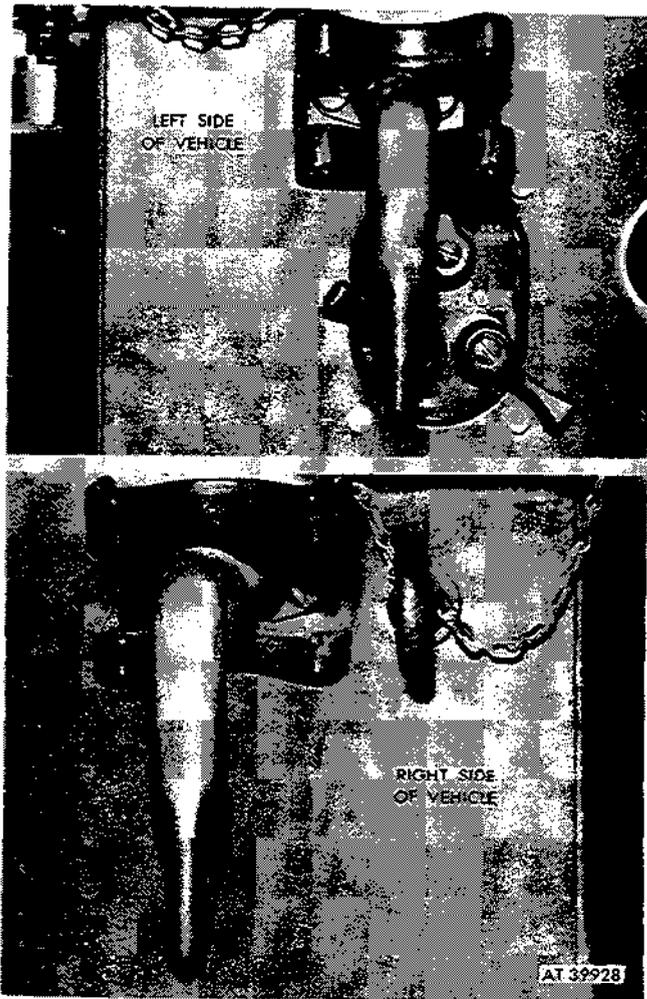
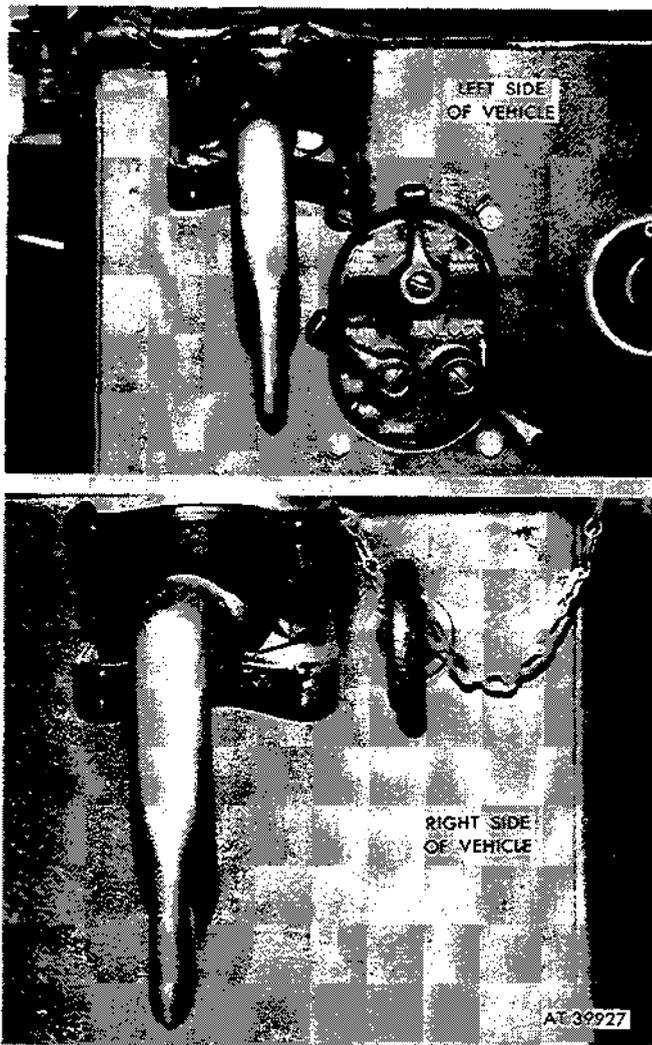

Figure 3-33. M16/14 rifle mount kit—installed, left and right side (softtop vehicles).
Figure 3-34. M16/14 rifle mount kit—installed, left and right side (hardtop vehicle).
a. The M16 / 14 rifle mount kit consists of a reinforcement plate, bracket mounting catch assembly, catch, and a floor mounting support assembly. With this kit installed, the vehicle provides a readily accessible location for storage of the M16 and M14 rifle. Refer to figures 3-33 and 3-34.
left and right side as indicated in figure 3-33. Due to door channel installation on vehicles equipped with hardtop kit, the rifle kit is located as indicated by figure 3-34. Where location of mounting holes necessitates different instructions, these instructions will refer to illustrations indicating the different locations.